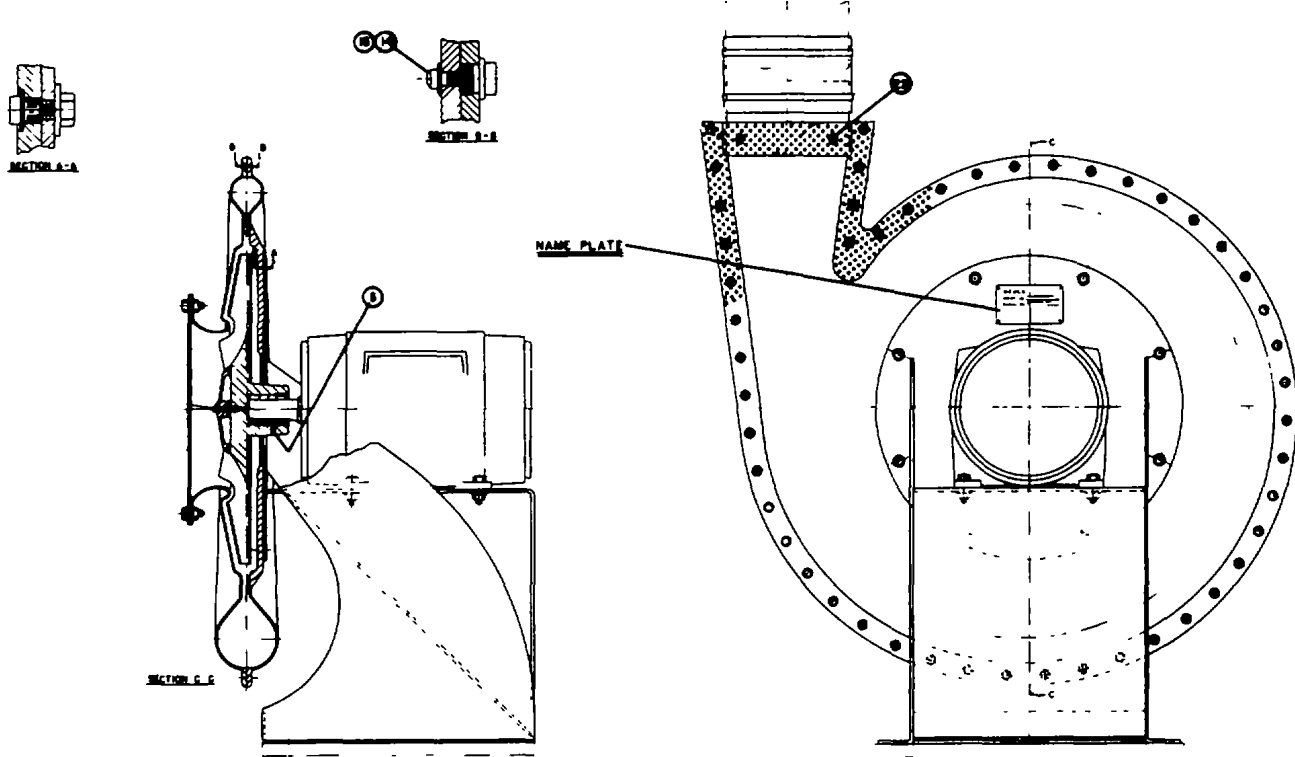

Fig. 1 - Typical Direct-Drive Turbo Blower
The following procedures should be followed when it becomes necessary to inspect or replace the impeller on a Hauck blower. The numbers in parentheses refer to items depicted in figure 1.
*In order to ensure an effective air seal, it is important that a suitable caulking (we recommend "STRIP CAULK" by 3M) be placed between the outlet adapter and the casing halves for a short distance in each direction. Suggested approximate area of caulking is shown in figure 1.*
12. Replace the self-tapping screws (22) which hold the front half of the casing to the outlet adapter.